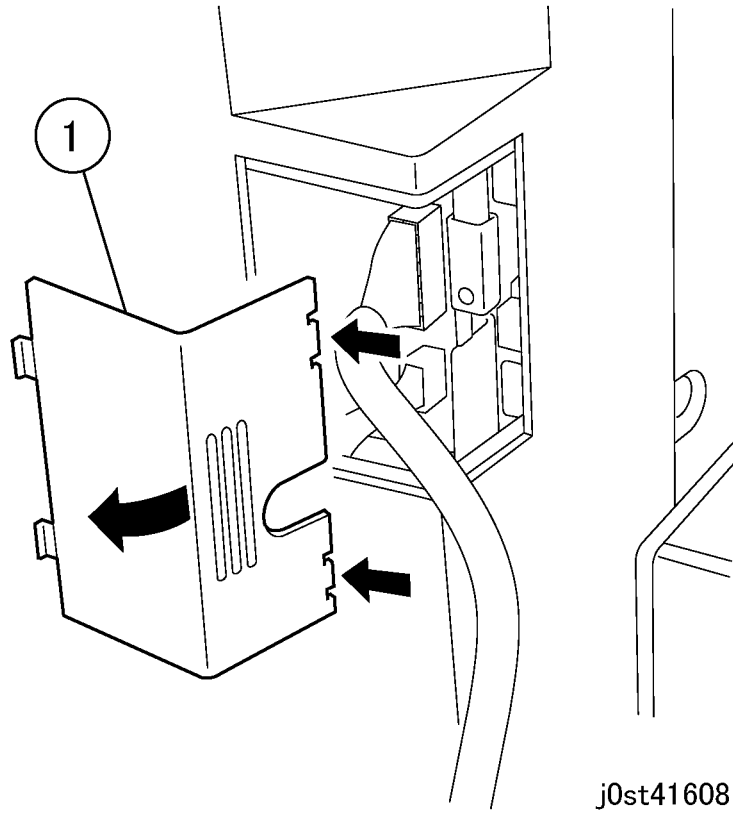

Figure 4 Removing the Left Panel (j0st41608)
5. Remove the Left Panel. (Figure 4)